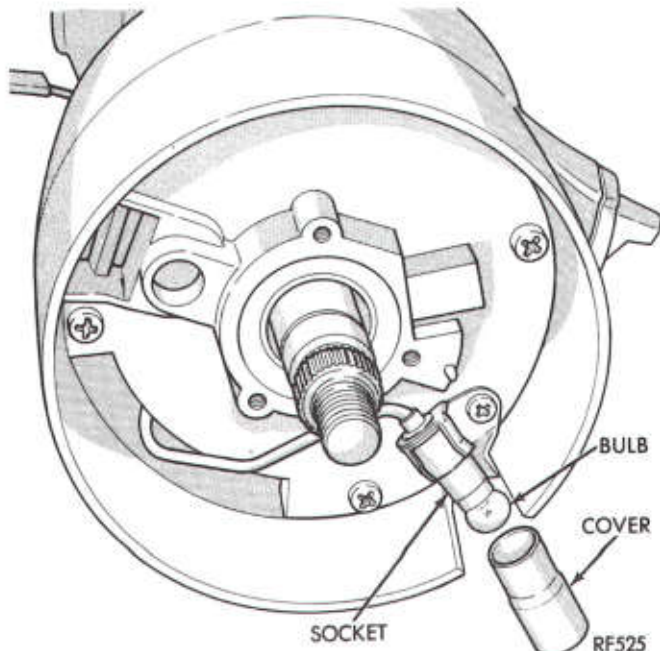

Fig. 7—Ignition Key Lamp
(5) Remove retaining screw and lift the ignition key lamp assembly out of the way (Fig. 7).